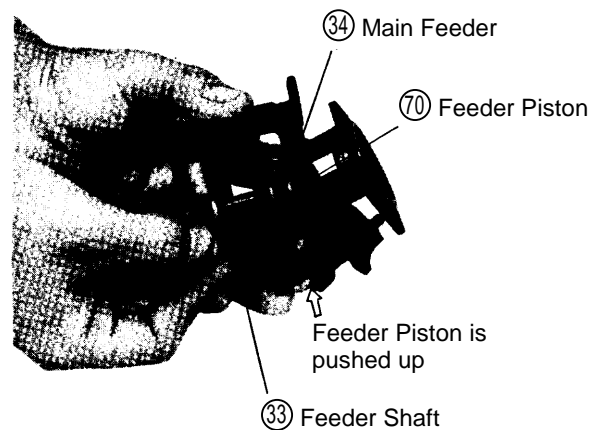

Fig. 23 Feed piston assembly
- In assembling the Feed Piston section, first put the Feed Spring (72) onto the Feed Piston (70), ensuring that the O-Ring (R16) (69) is properly fitted to the O-Ring groove on the Piston. Next, while pressing the Feed Piston (70) in with a finger as illustrated Fig. 23, insert the Main Feeder (34) from below, and set the Main Feeder Spring (30).